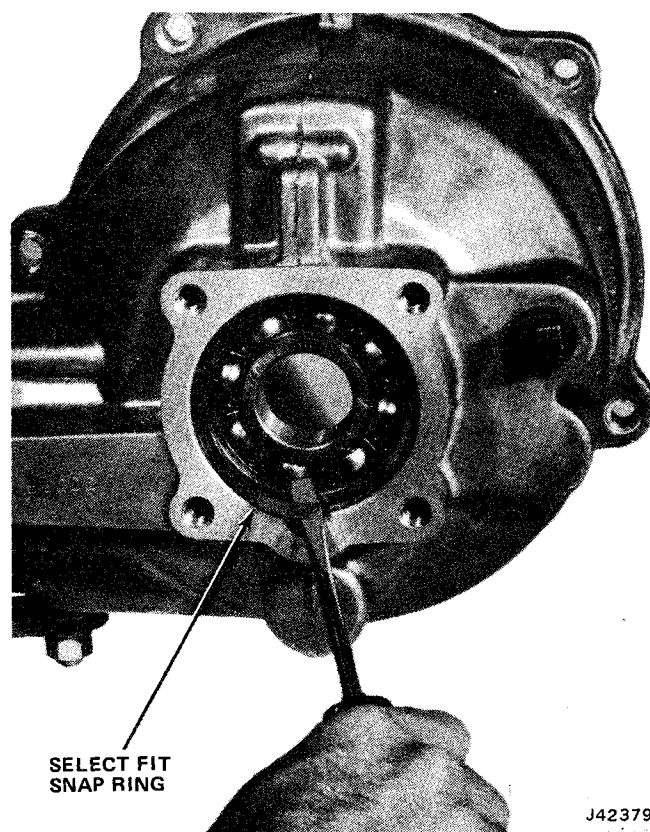

Fig. 2D-33 Rear Annular Bearing Snap Ring Removal
- (4) Remove control lever from shift lever assembly.
- (5) Remove shift fork retaining pin using 3/16-pin punch (fig. 2D-35). Drive pin completely out of shift fork and rail.
- (6) Slide shift rail forward and out of shift fork. Remove shift fork.
- (7) Remove shift rail poppet ball.
- (8) Drive poppet taper plug into shift rail bore and remove plug and poppet spring.
- (9) Remove shift lever retaining pin and shift lever assembly.
- (10) Remove reduction holding plate retaining snap ring and remove reduction holding plate.